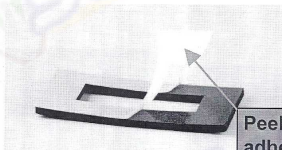
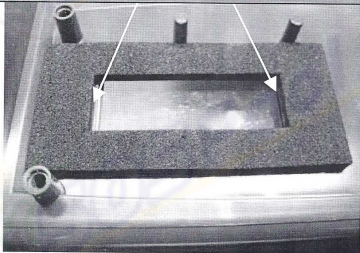

Fig. 18
Fig. 19
3. Remove the backing on the new gasket (Fig. 18) and install as per Fig. 19.